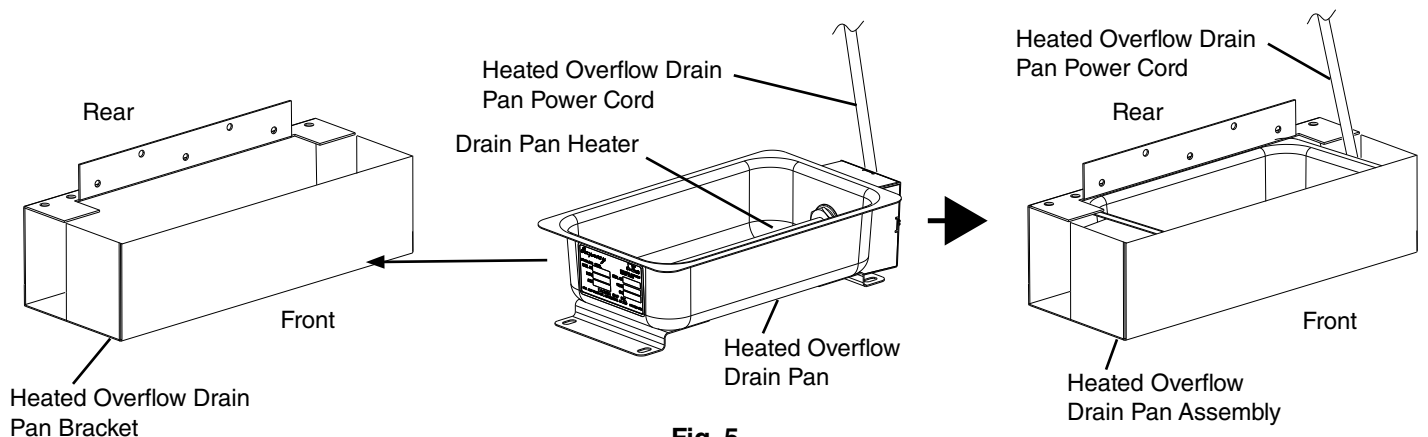

Fig. 5
- 8) Place the heated overflow drain pan provided in this kit, into the heated overflow drain pan bracket provided in this kit. See Fig. 5.